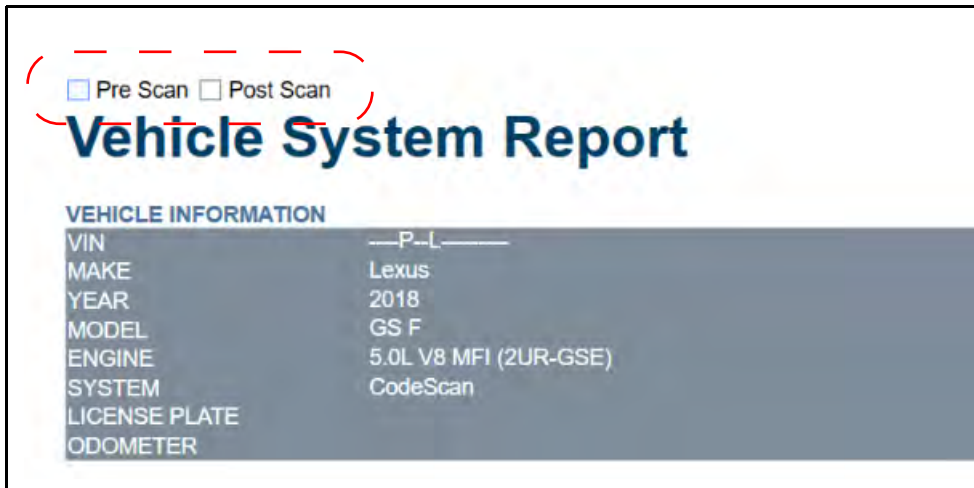

Figure 15-8
1. Double-click the code scan .XML file from the file list to open the Vehicle System Report (Figure 15-8) in the Code Scan Viewer.
2. Hover the cursor over the area shown in Figure 15-8, and select the desired option to add to the report header.